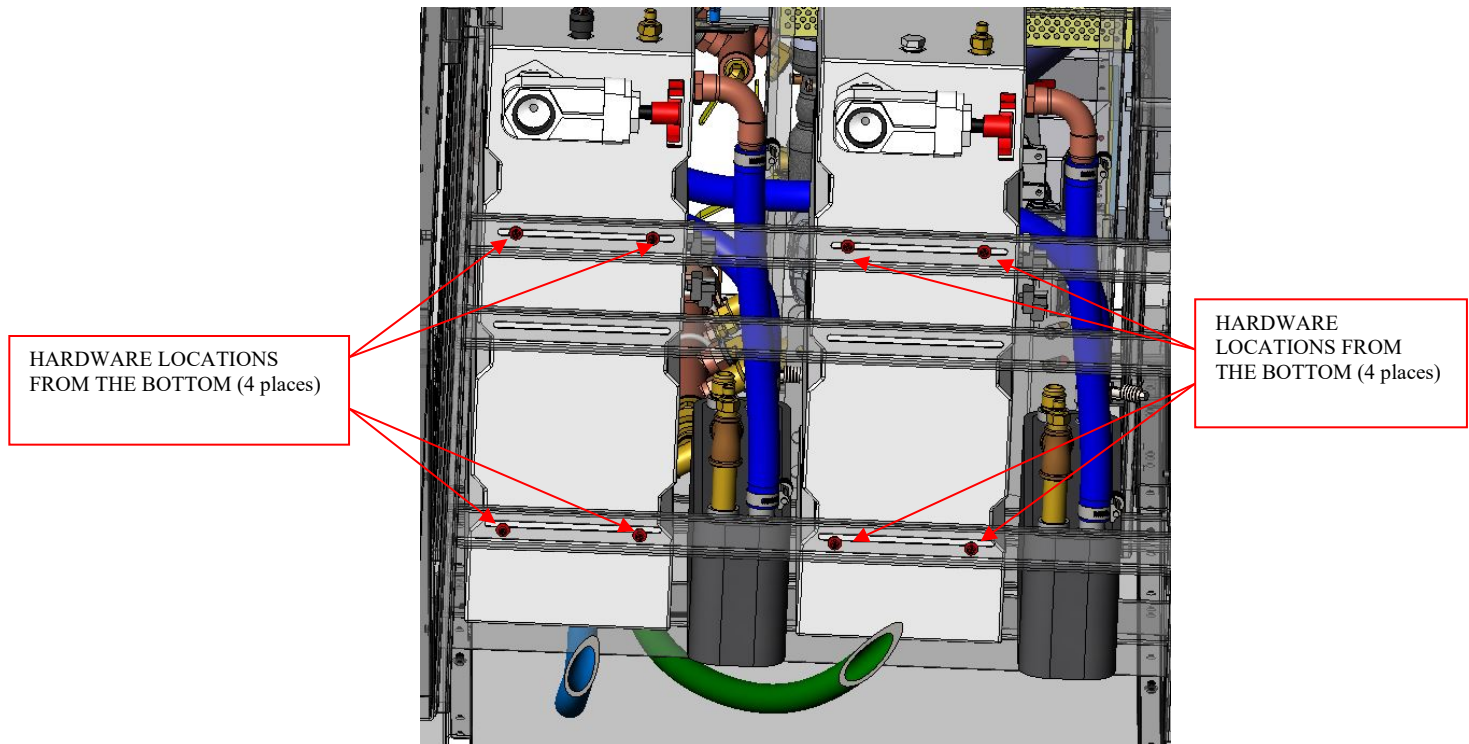

Figure 2 Detail of mounting screws for Reservoir (GC or PE side)
12. Using the #2 Philips screwdriver, remove the qty 4 #10-24 screws, lock washers and flat washers underneath the reservoir that is being removed. Refer to Figure 2 below. Retain hardware for re-installation.
2. Using #2 screw driver, secure reservoir with qty 4 #10-24 screws, lock washers and flat washers that were removed in Step 12 of Removal Procedure above. Refer to Figure 2 above for screw mounting locations.
8. Re-install vent cap by turning in a Clockwise (CW) direction.